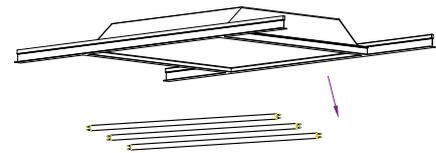

Fig 2
STEP 2: REMOVE EXISTING FIXTURE (FIG. 2)